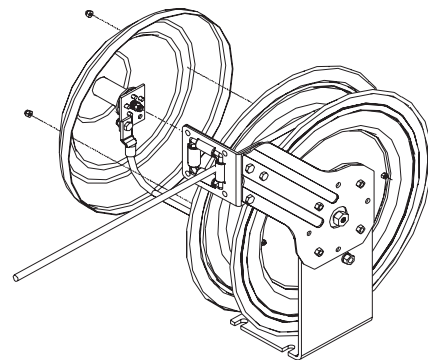

Fig 4.0
- Remove input cable from reel. Remove cover. (See figure 4.0)
- Remove input cable from reel. Remove cover. See figure 4.0